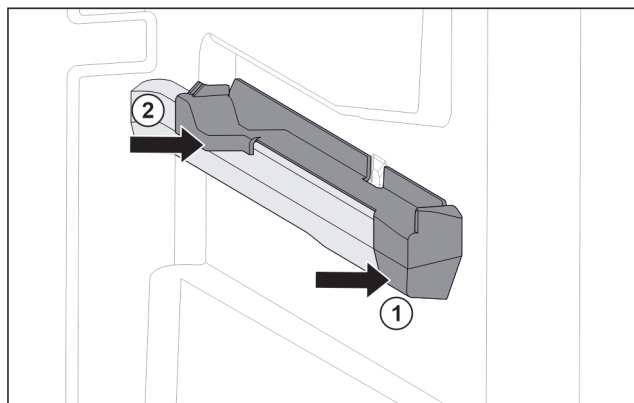

Fig. 59 Attachment on the right moulded rib
- ▶ Position attachment on moulded rib at the front. Fig. 59 (1)
- ▶ Press on attachment at the back. Fig. 59 (2)